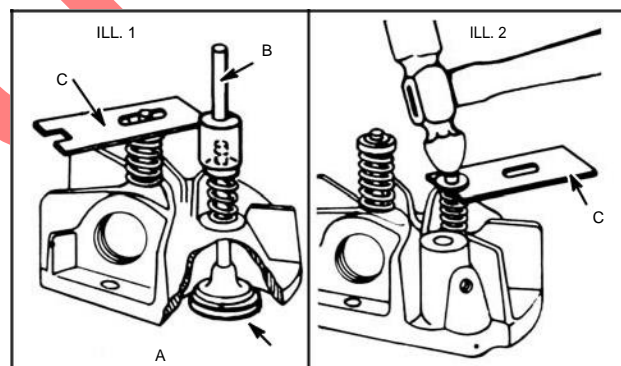

Fig. 508 – REMOVING AND ASSEMBLING VALVES MODEL FH
To remove exhaust valve place part (A), Tool #65292-2-T1 (NLA) under the valve head as shown in Fig. 508, Ill. 1. Be sure that this round tool stays under the valve head. Place slotted hole in tool (C) over the retainer as shown in Fig. 508, Ill. 1. Press down tool (C) and release the collar that holds the retainer in place. Remove retainer and spring to take out valve.
To assemble intake valve, insert tool (A) under valve head. Replace the spring and press the retainer on part way with tool (B) as shown Fig. 508, Ill. 2. Insert tool (C) between the end of valve stem and retainer above the spring Fig. 508, Ill. 2. This allows for the correct valve clearance. The thickness of tool (C) is about .036" which regulates proper valve opening. Press retainer down as far as possible and peen over the end of valve carefully to hold the retainer in place.